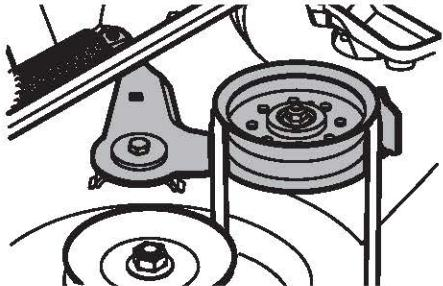

Figure 40
8. Working on the right side of the tractor, insert a 3/8 inch drive ratchet wrench, set to tighten, into the square hole found on the idler bracket (Figure 40).
9. Pivot the wrench forward to move the deck drive pulley forward (Figure 40).